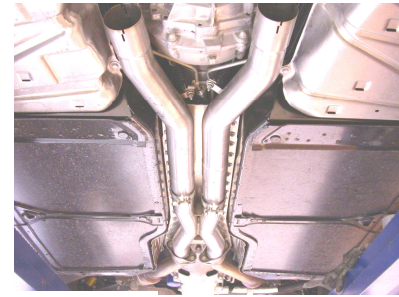

Figure 10
2. Place a clamp over the expanded end of both left and right extension pipes and place them into position as shown in figure 10. Do Not tighten clamps.